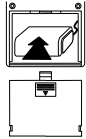

Figure 16: Installing Transmitter Battery
- First, install a 9-volt alkaline battery into the hand held Transmitter [see Figure 16]. To test the battery, press the off/auto resume button on the Transmitter. The red light on the Transmitter will light up for two seconds, and three audible beeps will be heard. After sustained